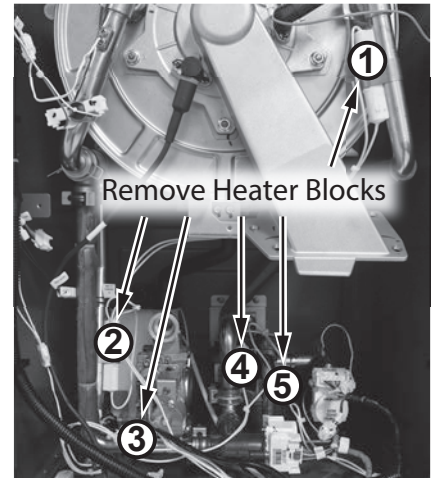

Figure 36 - Remove remaining heater blocks
- 15** Locate the five (5) remaining heater blocks attached to pipe connections as shown in Figure 36. Note the path of wires for ease of installation of new assembly. Remove brackets securing heater blocks to pipe connections. Place brackets aside in a safe place for reinstallation.